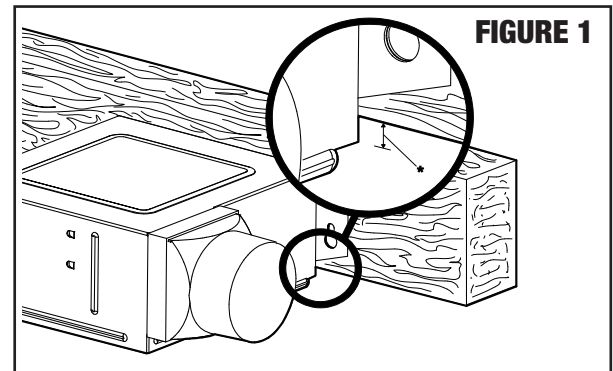

FIGURE 1
1. PREPARATION FOR MOUNTING (FIGURE 1)
Determine thickness of finished ceiling board (* measurement shown in FIGURE 1). Place fan unit body against ceiling joist in desired location. Ensure bottom of main body hangs down below joist to account for finished ceiling board.